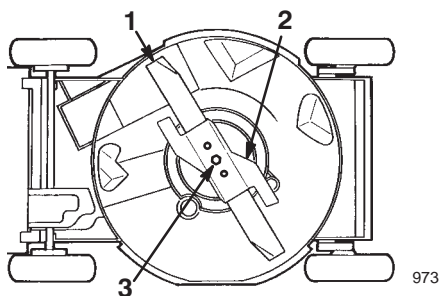

Figure 30
4. Tip the lawn mower on its *left* side (air filter up) (Fig. 30).
2. Remove the blade bolt, the lock washer, the accelerator, and the blade (Fig. 30).